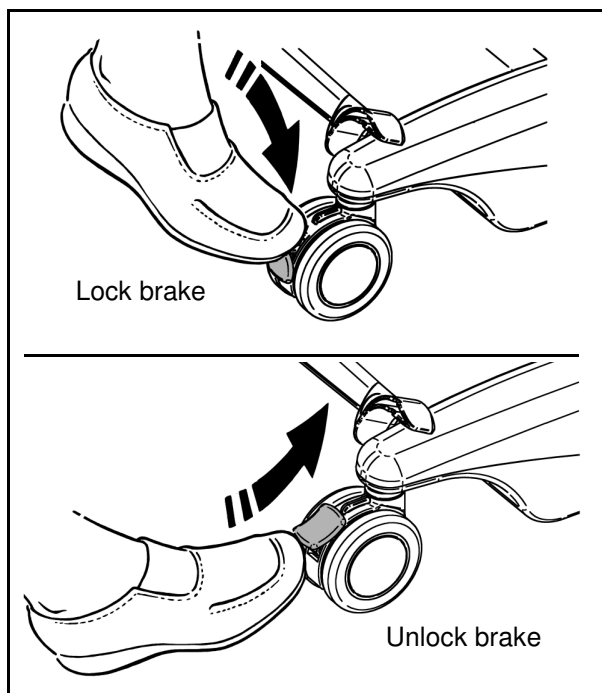

Fig. 13
(See Fig. 13) The chassis rear castors have brakes which can be foot operated to keep the Maxi Move in position.
**CAUTION:** The chassis rear castors have brakes which can be foot-operated when required (see Fig. 13). Do not apply the chassis brakes at this stage, as the position of gravity of the patient will adjust to the center of gravity of the lift while the patient is being raised.